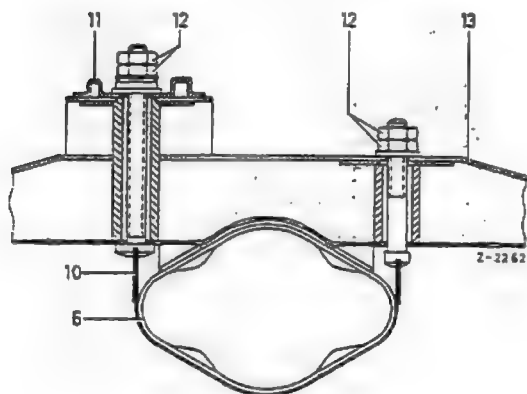

Fig. 46-8/8
7. Unscrew the hexagon nuts (12) from the threaded bolts of the tightening strap (10) and push the steering column jacket (6) forward until the steering lock no longer engages the opening in the instrument panel (Fig. 46-8/8).